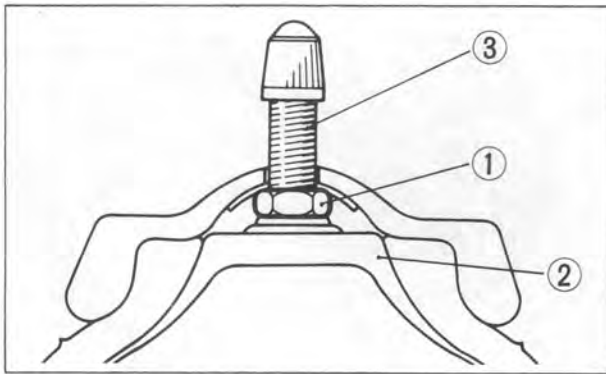

Fig. 4-28 (1) Valve nut
2. Install a valve nut when installing the tire tube as shown in Fig. 4-28.